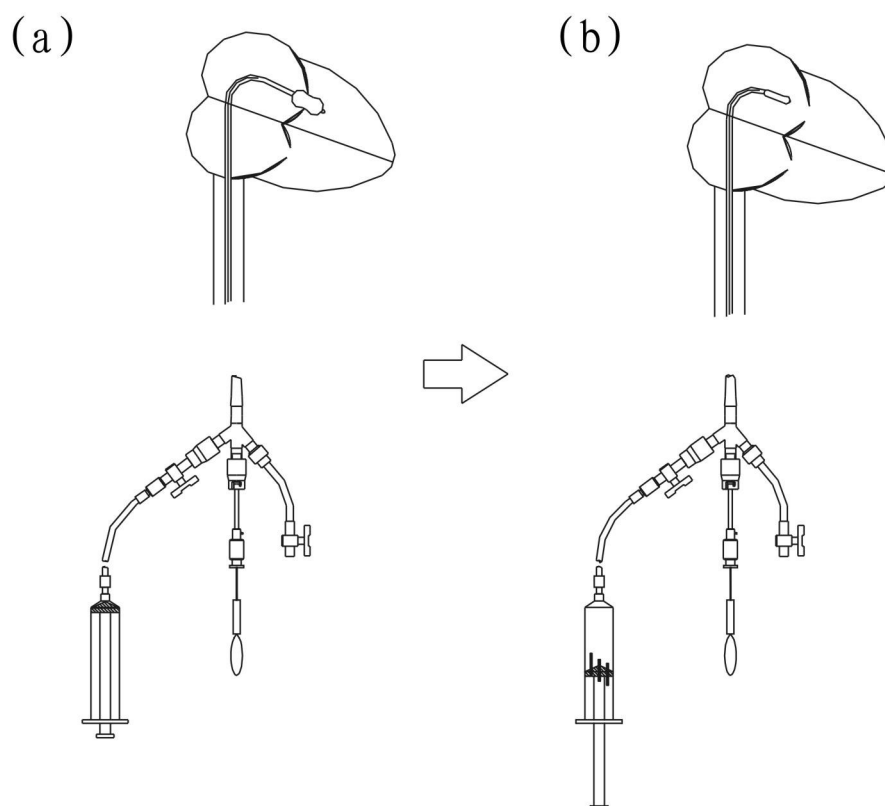

Fig. 25 Balloon be deflated and placed in the atrium
b. When the balloon is positioned at the mitral orifice, inject the remaining diluted contrast medium rapidly to inflate the whole balloon and dilate the valve (a). As soon as the balloon is fully expanded, the balloon should be deflated and be placed in the atrium (b) (see Fig. 25).